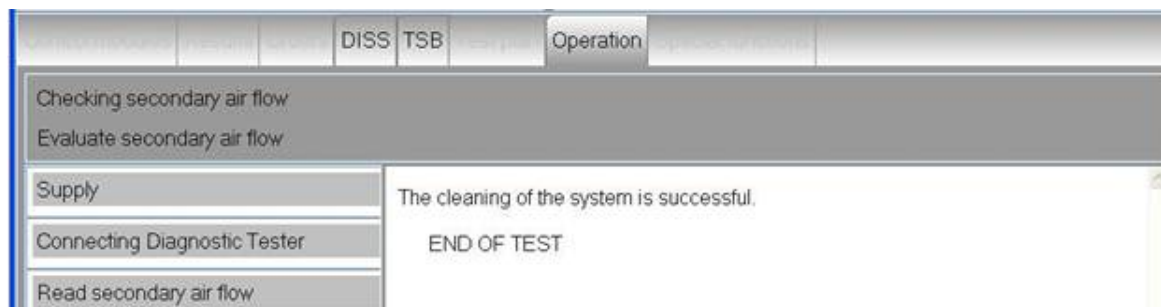

Figure 17. Successful cleaning screen.
14. The last screen will confirm that the cleaning was successful (Figure 17).